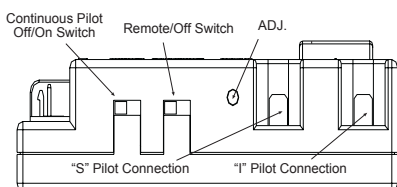

Figure 42 - Gas Module Right Side
1. There is a switch located on the right side of the module that reads CONTINUOUS PILOT ON/OFF. This switch selects the pilot's mode of operation (Figure 42).